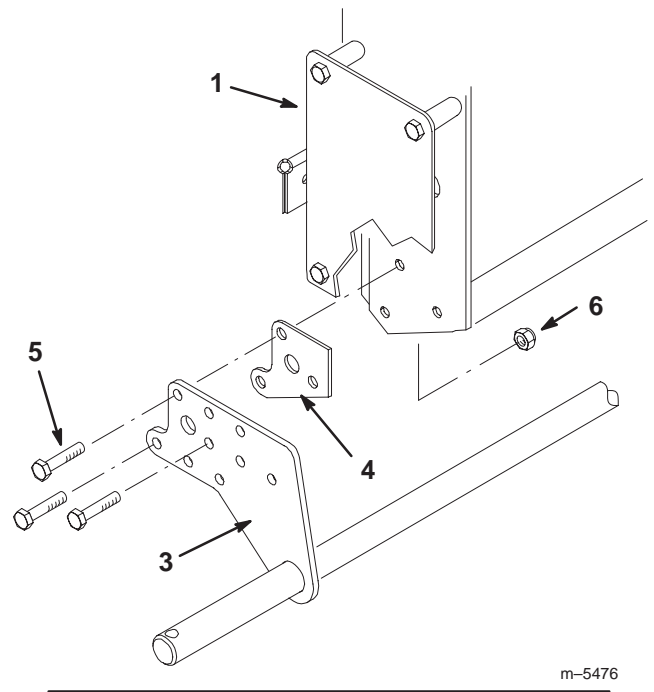

Figure 5
- Insert the axle mounting brackets between the pulley guards and the frame (Fig. 5).
- Insert the large spacers between the axle brackets and the frame, lining up the holes (Fig. 5).
- Using the 6 bolts (3/8 x 1-3/8 in.) and locknuts (3/8 in.) supplied with the sulky, secure the axle and the spacers as illustrated in Figure 5.